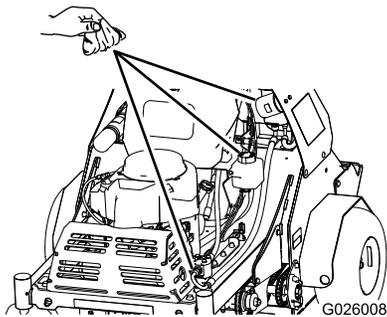

Figure 55
2. Carefully clean area around the front of the auxiliary pump, the fill cap for the reservoir, and the filter (Figure 55).